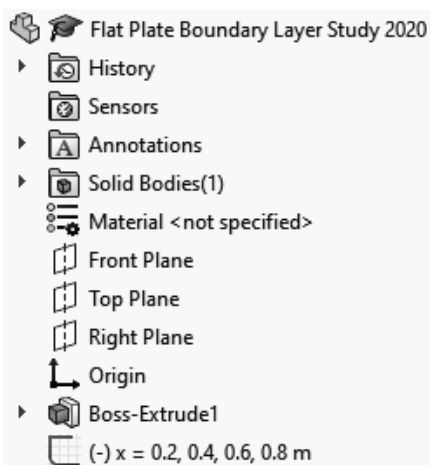

Figure 2.8 Renaming the sketch for boundary layer velocity profiles
8. Repeat steps 6 and 7 three more times and add three more vertical lines to the sketch, the second line at  $X = 400$  mm with a length of 40 mm, the third line at  $X = 600$  mm with a length of 60 mm and the fourth line at  $X = 800$  mm with a length of 80 mm. These lines will be used to plot the boundary layer velocity profiles at different streamwise positions along the flat plate. Close the **Line Properties** dialog  and the **Insert Line** dialog. Save the SOLIDWORKS part with the following name: **Flat Plate Boundary Layer Study 2021**. Rename the newly created sketch in the **FeatureManager design tree**, see figure 2.8. You will need to left click twice to rename the sketch.